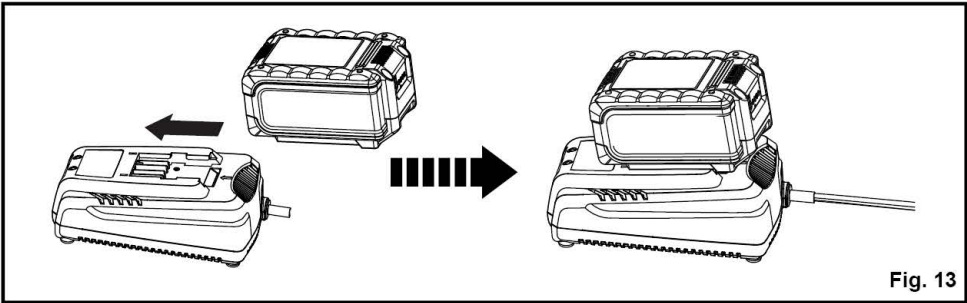

Fig. 13
1. Align the slot of the battery pack with the rail on the charger. Slide the slot onto the rail until the battery pack secures into place (Fig. 13).